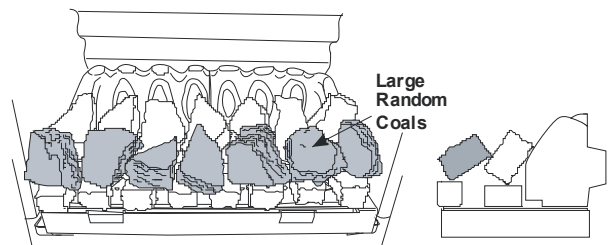
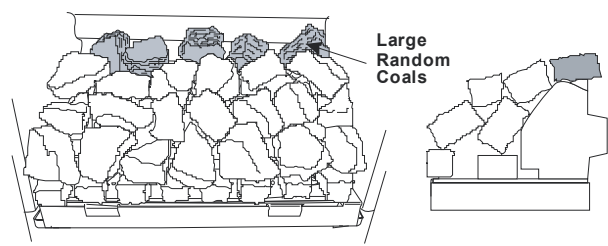

Figure 22
Figure 25
5. Continue laying the coals as shown in **Figure 22** to **Figure 25** ensuring that the coals are placed 'loosely'. Packing the coals too tightly together will result in a poor flame picture. The best results come from a 'loose' fuel build.